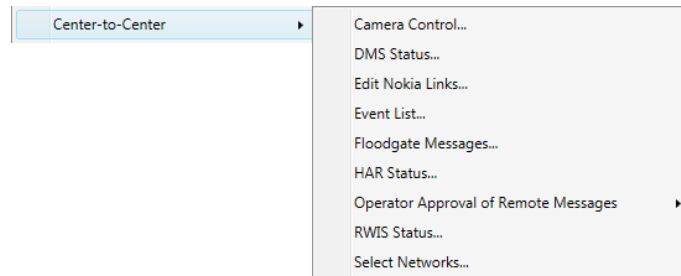

Figure 3-9 – C2C Menu
- **Center-to-Center Menu** (see Figure 3-9): This option allows the operator to issue commands to other centers using the Center-to-Center (C2C) infrastructure; the software is described in detail in Section 3.2.4.